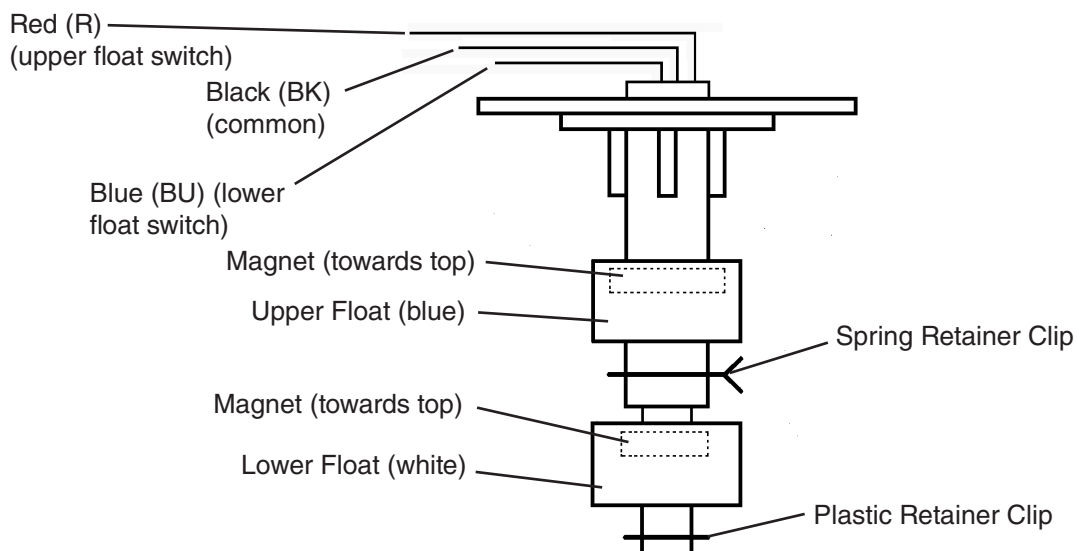

Fig. 10
- 4) Disconnect the molex plug from the control box and check continuity across FS wires. (BK) to (R) for UFS and (BK) to (BU) for LFS. See Fig. 10. With the water reservoir empty, FS switches are open. If open, continue to step 5. If closed, follow the steps in "II.E.2. Float Switch Cleaning." After cleaning the floats, check them again. Replace if necessary.
- 8) Disconnect the molex plug from the control box and check continuity across FS wires. (BK) to (R) for UFS and (BK) to (BU) for LFS. They should be closed. Clean or replace if necessary.